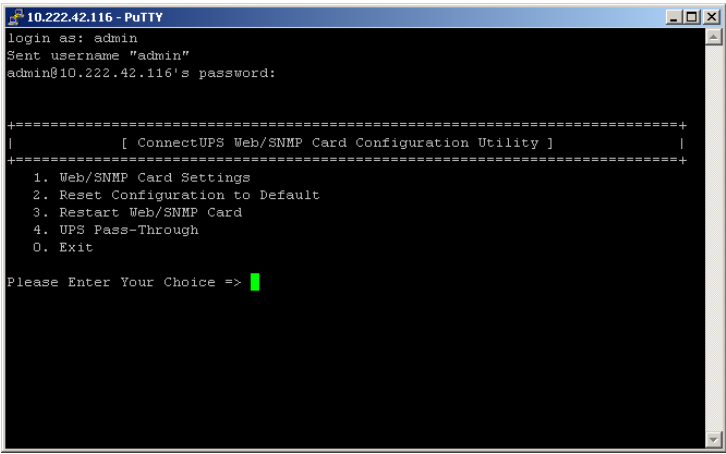

Figure 32. ConnectUPS Web/SNMP Card Menu Window
- 8. Press Enter. The ConnectUPS Web/SNMP Card menu window opens (see Figure 32).